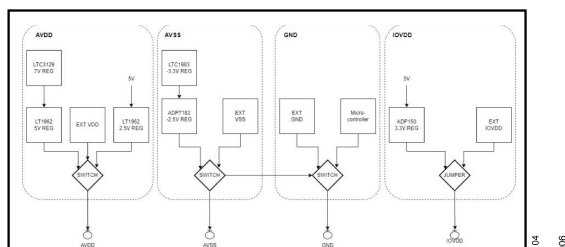
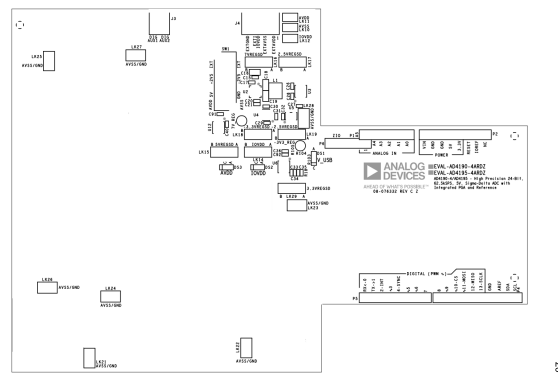

Figure 6. Block Diagram of Evaluation Board Power Supplies
Figure 7. Power Supply Link Options
The block diagram of evaluation board power supplies is shown in Figure 6 and location of AVDD, AVSS, and IOVDD control links are shown in Figure 7.
Each regulator can be shut down using their shutdown links, as shown in Figure 7.
- ▶ AVSS connected to GND (LK21 to LK28, see Figure 7).
- ▶ GND connected to AVSS (LK21 to LK28, see Figure 7).